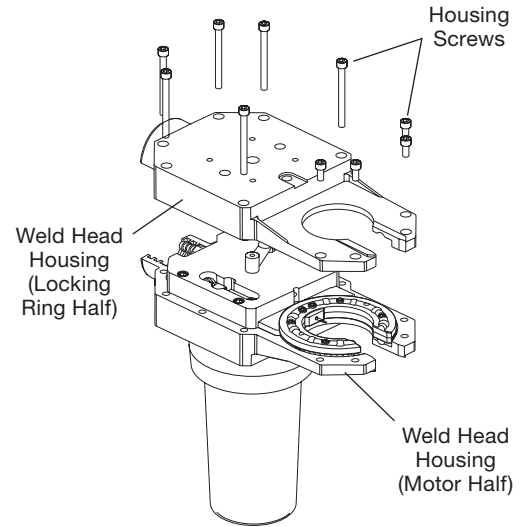

Figure 26 Removing the Locking Ring Half of the Weld Head Housing
5. Remove the weld head housing screws from the housing. Using a slight rocking motion, carefully separate the locking ring half of the weld head housing from the motor half. See Figure 26.